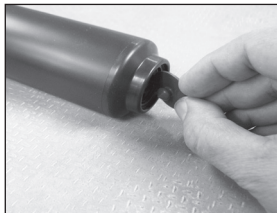

Figure 4
4. Inspect check valve in bottom of barrel. If worn or damaged, remove and replace by pressing into hole in bottom of barrel. (See Figure 4)